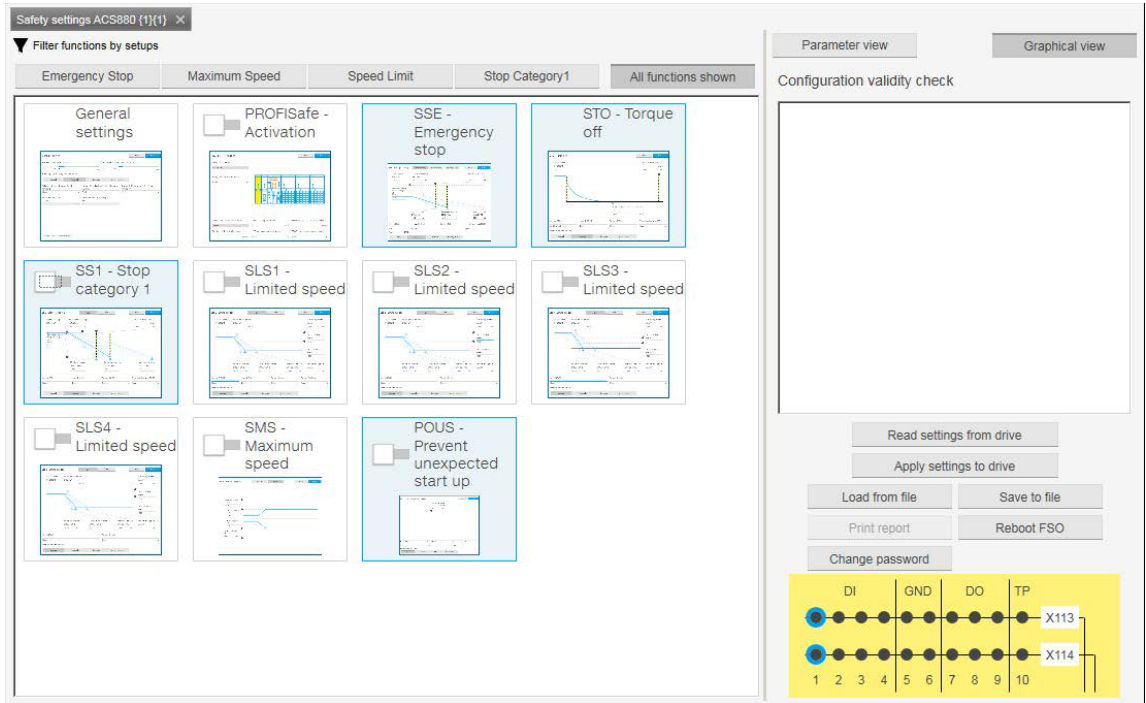
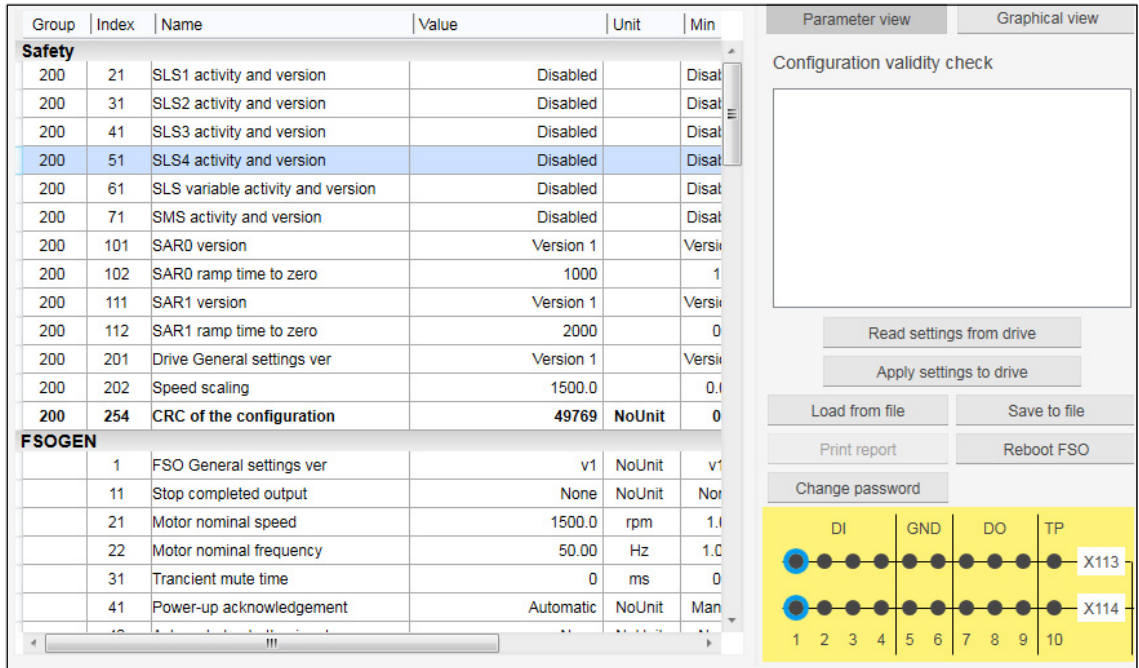

Figure 142. FSO configuration: Graphical view
Figure 143. FSO configuration: Parameter view
You can switch between **Graphical view** and **Parameter view**. See Figure 142.FSO configuration: Graphical view and Figure 143.FSO configuration: Parameter view.
- Graphical view cannot be used for setting safe IO, cascade function or for SBC function (see Figure 142.FSO configuration: Graphical view). Instead use the Parameter view (see Figure 143.FSO configuration: Parameter view).